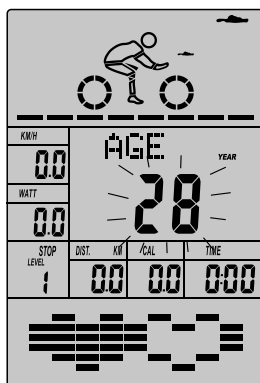

Fig 31
- The age display will flash, and then press (or rotate) button UP/DOWN to set the user's age. Press ENTER to confirm the value. (Fig 31)